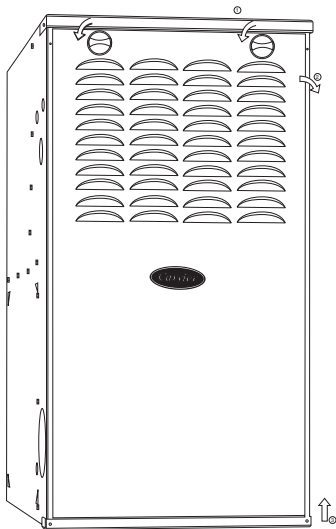

Fig. 6 – Remove Furnace Door
- Remove the outer door by loosening the thumbscrew and pulling the door forward, see Fig. 6.
- Remove outer furnace door, see Fig. 6.